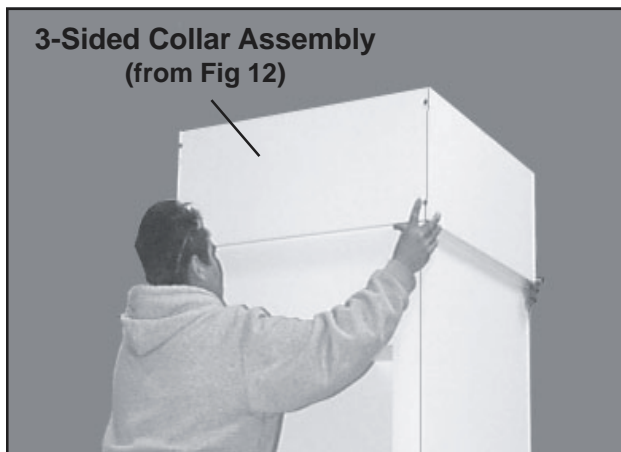

Figure 13. Placing the 3-Sided Collar Assembly in Position on the Chase
3. Place the 3-panel assembly in position at the top of the chase and hold it as close to the ceiling as possible (Figure 13).